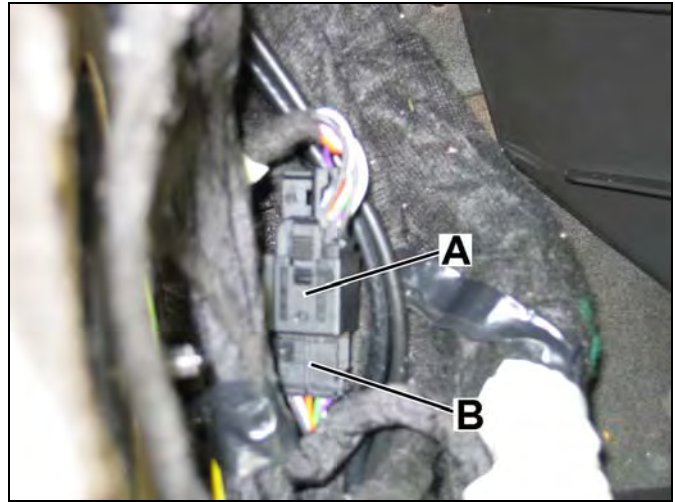

Figure 21
5. Connect the Telephone/VCS microphone array male connector (A Figure 21) to the Tele Aid microphone array female connector (B, Figure 21).